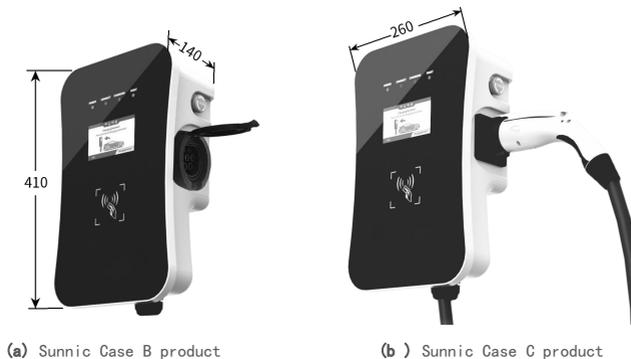

Fig. 4-1 The shape & dimensions of product
- Sunnic Case B and Case C series products share the same wallbox shell. The shape & dimensions of AC EV charging station shown as Fig. 4-1.